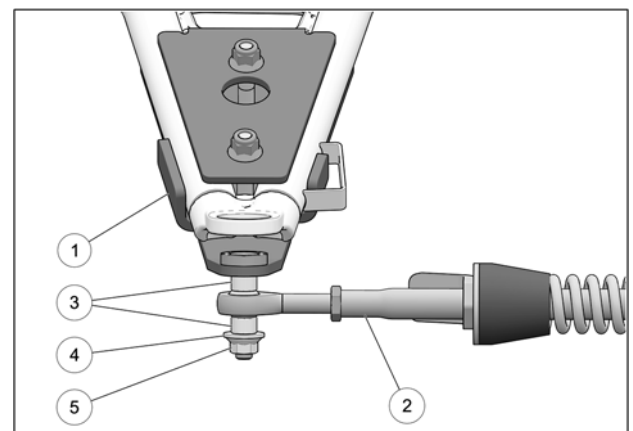

Fig. 18
- Attach the stabilizing rod (**2**) to the anchor bracket (**1**), using the two spacers (**3**), washer (**4**), and nut (**5**). Torque to 70 N•m [52 lb•ft]. See Fig. 18